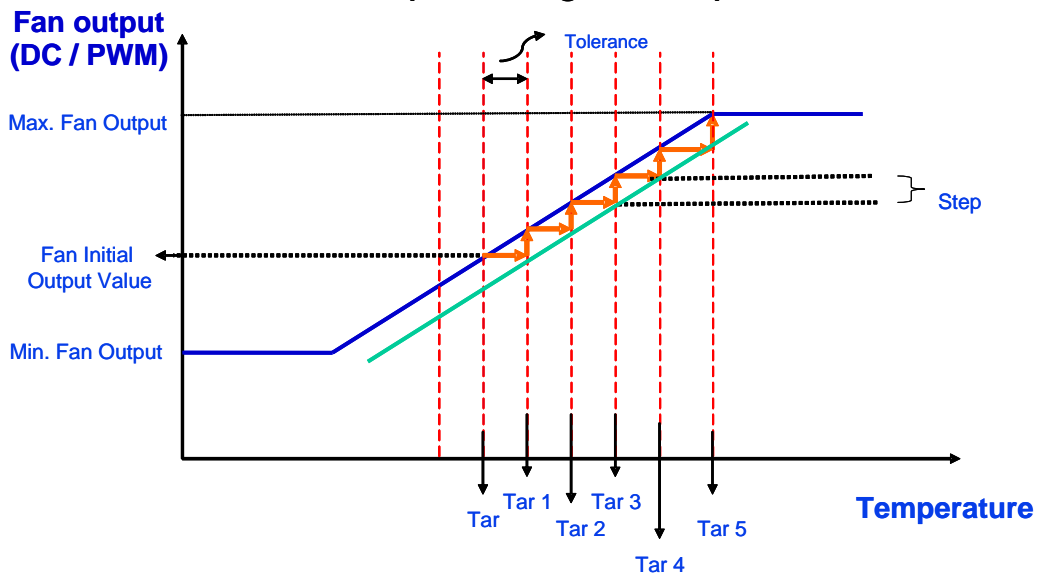

Figure 10
- (3) If the current temperature is higher than (Target Temperature + Temperature Tolerance), the fan speed rises by one step. In addition, the target temperature shifts to (Target Temperature + Temperature Tolerance), creating a new target temperature, named Target Temperature 1 in Figure 10. If the current temperature is still higher than (Target Temperature 1 + Temperature Tolerance), the fan speed rises by one step again and the target temperature shifts to (Target Temperature 1 + Temperature Tolerance), or Target Temperature 2. This process repeats whenever the current temperature is higher than (Target Temperature X + Temperature Tolerance) or until the fan speed reaches its maximum speed. This is illustrated in Figure 10 below.